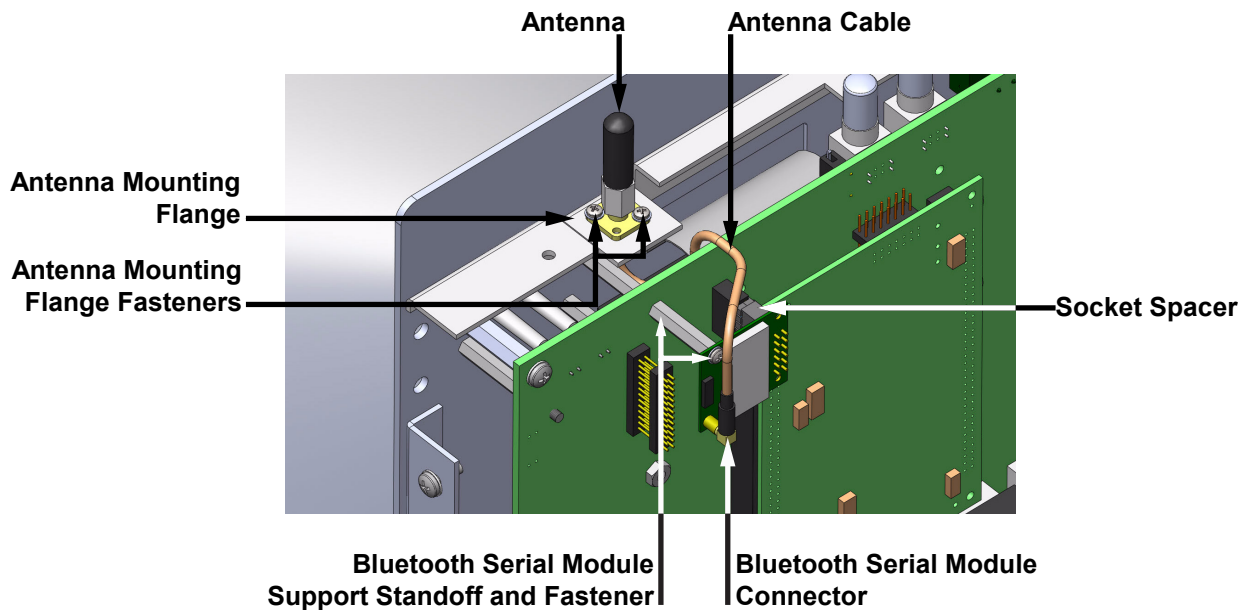

Figure 8.1-1 Bluetooth Module and Antenna Orientation
1. Remove the antenna by unscrewing the two 2-56 x 1/4 screws and lock washers from the captured fasteners (Figure 8.1-1).
2. Disconnect the antenna cable from the Bluetooth module's connector. Unscrew the end of the antenna wire connector from the antenna mounting flange (Figure 8.1-1).